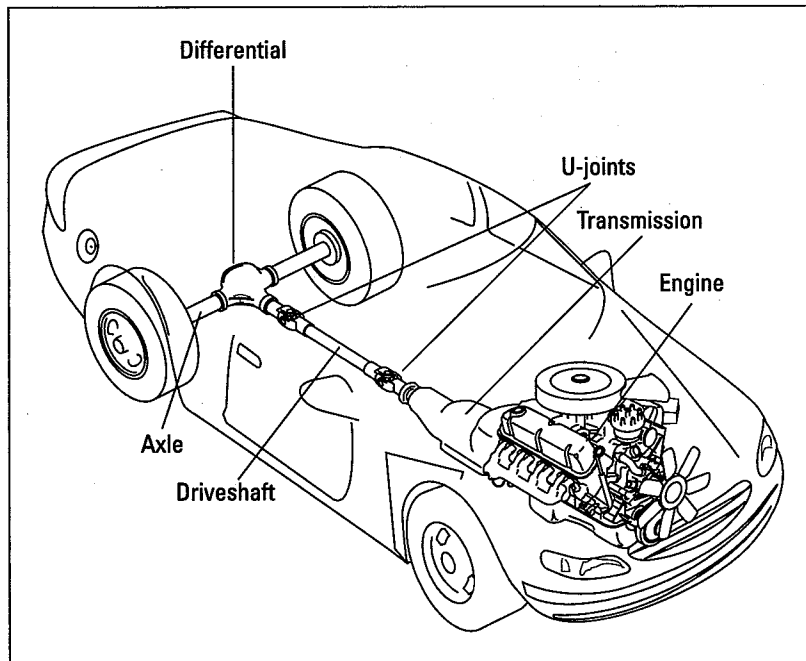
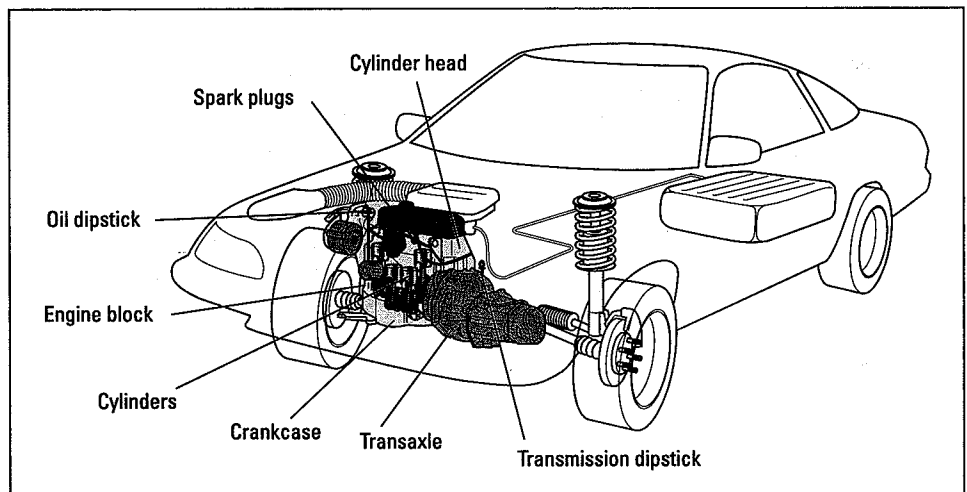

Figure 4-5:
Figure 4-6:
10. At the other end of the crankshaft is a box of gears called the transmission. If your car has a conventional engine with rear-wheel drive (see Figure 4-5), the transmission is under the front seat. If it has a transverse engine and front-wheel drive (see Figure 4-6), the transmission is under the hood of the car. On rear-engine cars, both the engine and the transmission are under the rear deck lid, where the trunk would ordinarily be found.